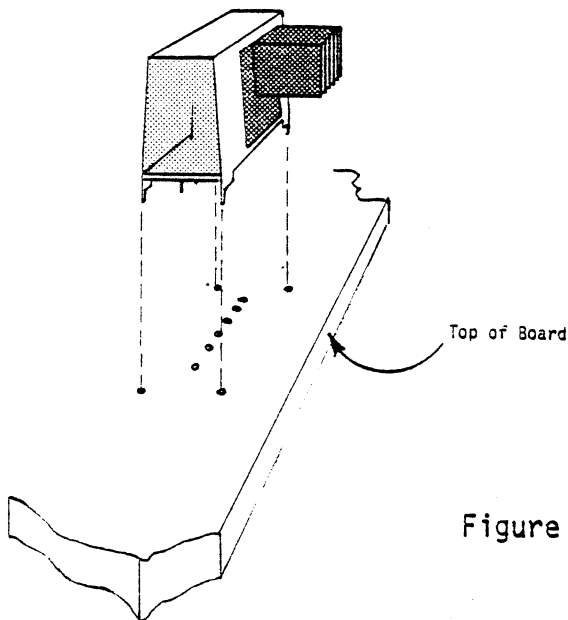

Figure 4-15b. Switch Orientation
1. Referring to Figure 4-15b, orient the switch over the silkscreened side of the board.